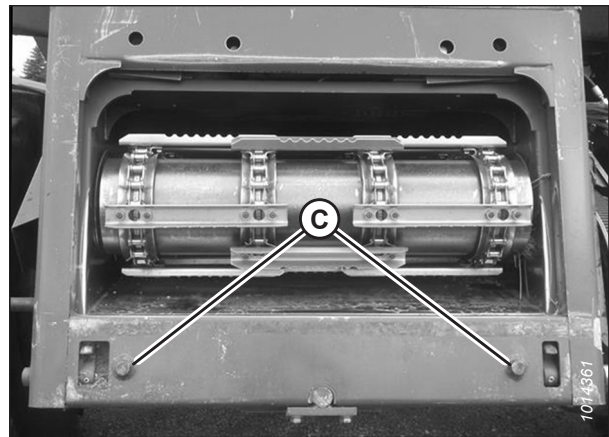

Figure 5.11: Alignment Pins
3. Start the engine and slowly approach the header until the feeder house is directly under float module top cross member (A) and alignment pins (C) (refer to Figure 5.11, page 78) on the feeder house are aligned with holes (B) in the float module frame.